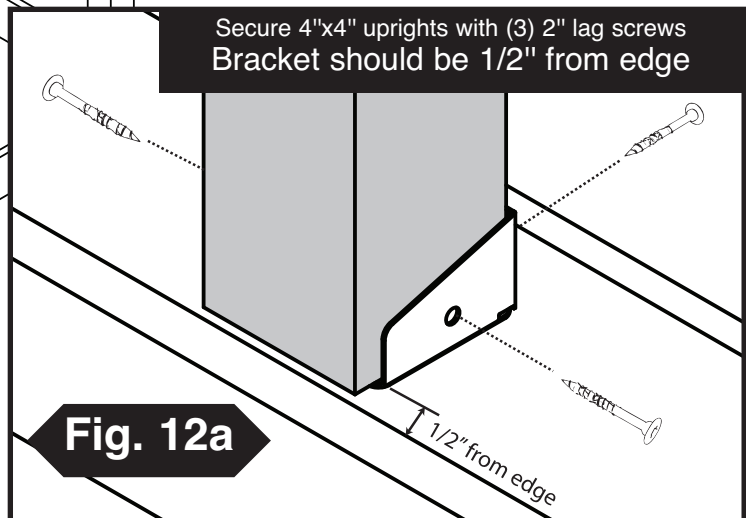

Fig. 12a
- 2. Install (2) 4" x 4"s as shown in (Fig. 12) and (Fig. 12a).**